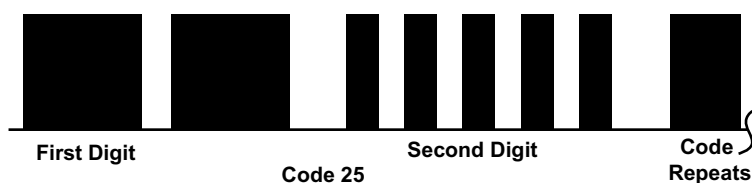

Figure 4-21 Acura engine Code Type 03
- Type 03, see Figure 4-21 and Table 4-4